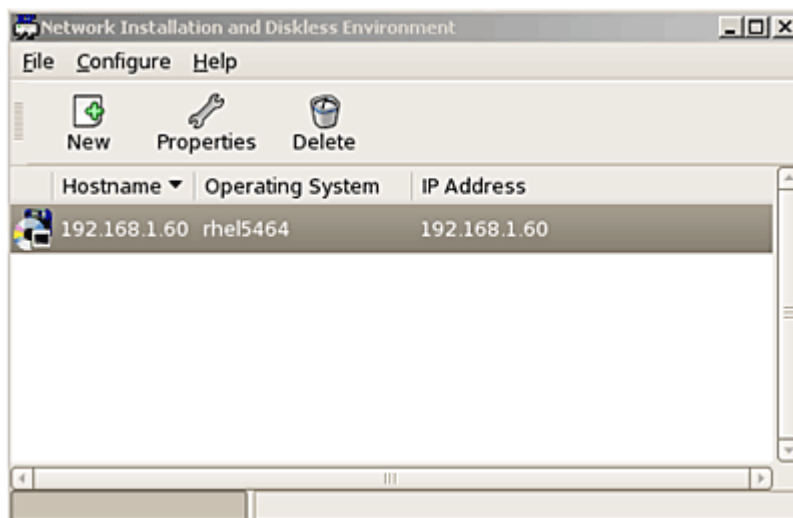

Figure B-4 Network Installation and Diskless Environment Window with IP Address
1. Double-click on the IP address row in the Network Installation and Diskless Environment window (Figure B-4). An edit dialog box is displayed.
8. Go to `/tftpboot/pxelinux.cfg` and open the file `C0A8013C`. The `C0A8013C` file is created when you assign the client IP using “system-config-netboot”. This is the hexadecimal address of the IP assigned to the client NIC. It is 192.168.1.60 in the example in Figure B-4.